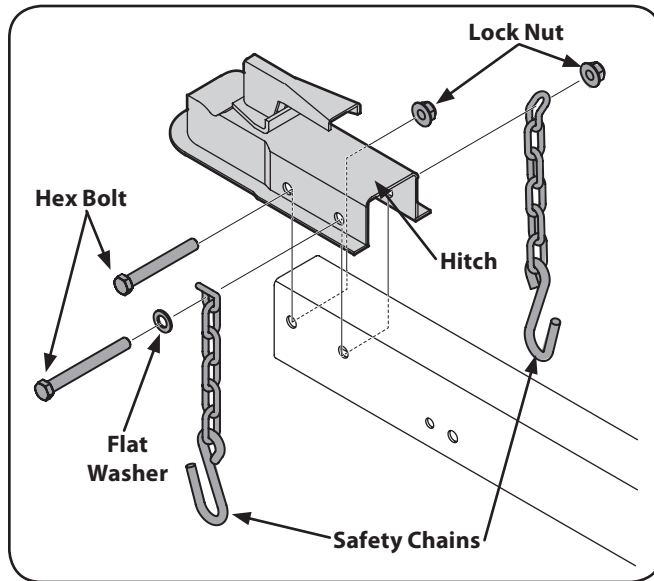

Figure 3-5
2. Insert the hex bolt through the flat washer, the end of safety chain and then the rear hitch hole. Pivot the end of safety chain so it faces the ball end of hitch. See Fig. 3-5.